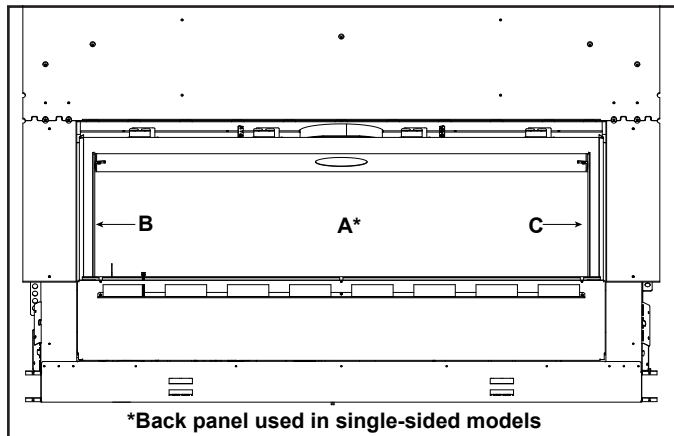

Figure 11.3 Placement of Glass Panels
- Set back glass panel, labeled A in Figure 11.3, into firebox with the smooth side of the glass facing outward. Insert retaining bracket through the slot in the inner firebox heat shield. Line up the existing hole in the heat shield with the hole closest to the bend in the bracket and secure in place with a screw.
- Install the left side panel, labeled "B" in Figure 11.3, by sliding it into place from the front. While installing, press the panel firmly against the firebox side.
- Set left side glass panel, labeled B in Figure 11.3, into firebox with the smooth side facing outward.